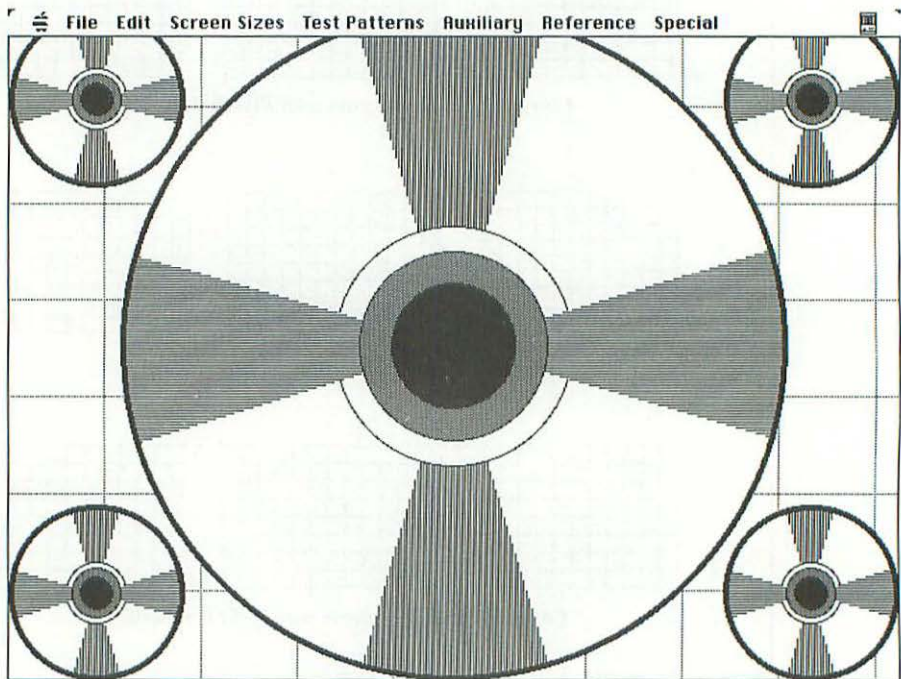

Figure 3-34 The Geometric Test draws five circular patterns on top of the cross hatch.
18. When you're satisfied that the linearity is as good as you're going to get it, hold down the Option key and choose Geometric Test (Apple-T) from the Test Patterns menu. As shown in Figure 3-34, the Geometric test pattern draws five circular patterns on top of the cross hatch.